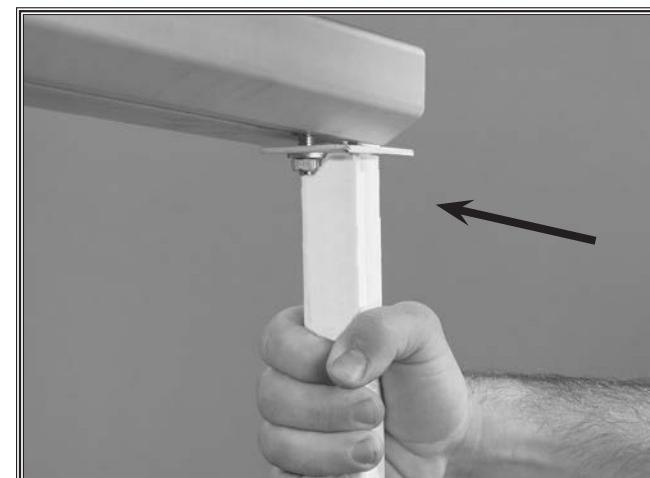

Figure 9. Sliding rail leg into table.
7. On each leg flange fasten two $5/16\text{-}18 \times 3/4\text{"}$ T-bolts, flat washers, and the nuts; then slide the legs onto the rails as shown in **Figure 9**.